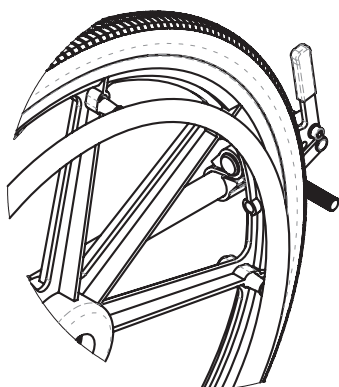

Figure 14.32: Attendant Wheel Lock (Push to Lock)
3. To engage the attendant wheel lock (see Figure 14.32), pull the lever towards the wheel until it locks into place.